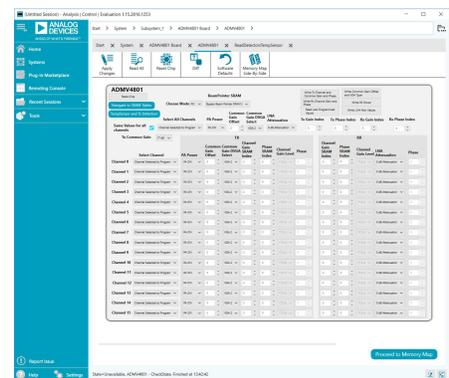

Figure 8. ADMV4801 Block Diagram in ACE Software
5. The ADMV4801 block diagram appears (see Figure 8).